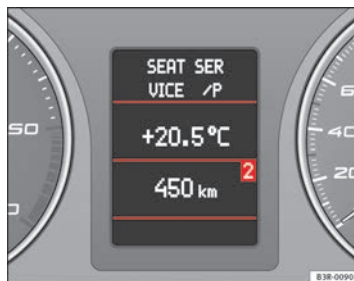

Fig. 65 Driver information system
- Press the **MODE** button (B) repeatedly to switch between modes, which are then displayed in the driver information system ⇒ fig. 65.
- Scroll and press the left thumbwheel (A) to select a function from one of the menus.
- The speech control system* for the on-board phone system is enabled by pressing the talk button (C). Pressing the talk button again disables speed control*.
- Scroll the right thumbwheel (D) up/down to increase/decrease the volume. ■